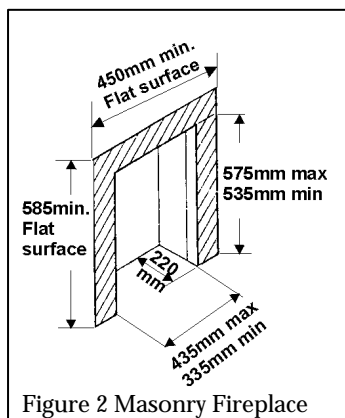

Figure 2 Masonry Fireplace
**2.11.1** A masonry chimney with a minimum diameter of 175mm free from obstruction. Note the flat surface area requirement (Figure 2). A masonry chimney